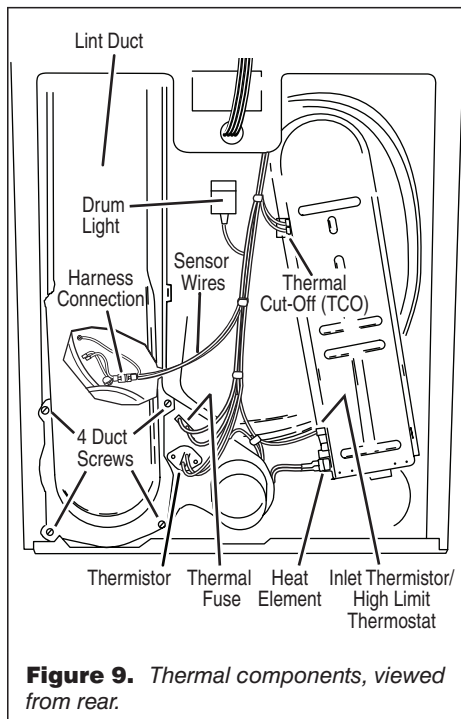

Figure 9. Thermal components, viewed from rear.
Locate the components using figure 2, page 6; and figure 9, below.
- Check wire connections at the machine control electronics and thermistor. See Accessing & Removing the Electronic Assemblies, page 11; and for thermistor location, figure 9.
- Check wire connections at the machine control electronics and inlet thermistor. See Accessing & Removing the Electronics Assemblies, page 11, and for inlet thermistor location see figure 9, page 8.
- Check the resistance of the inlet thermistor. See figure 9, page 8 for location.
- Access the thermal fuse by first removing the back panel. See Removing the Back Panel, page 12; and for thermal fuse location see figure 9, page 8.
- Using an ohmmeter, check the continuity across the thermal cut-off. See figure 9, page 8, for location.